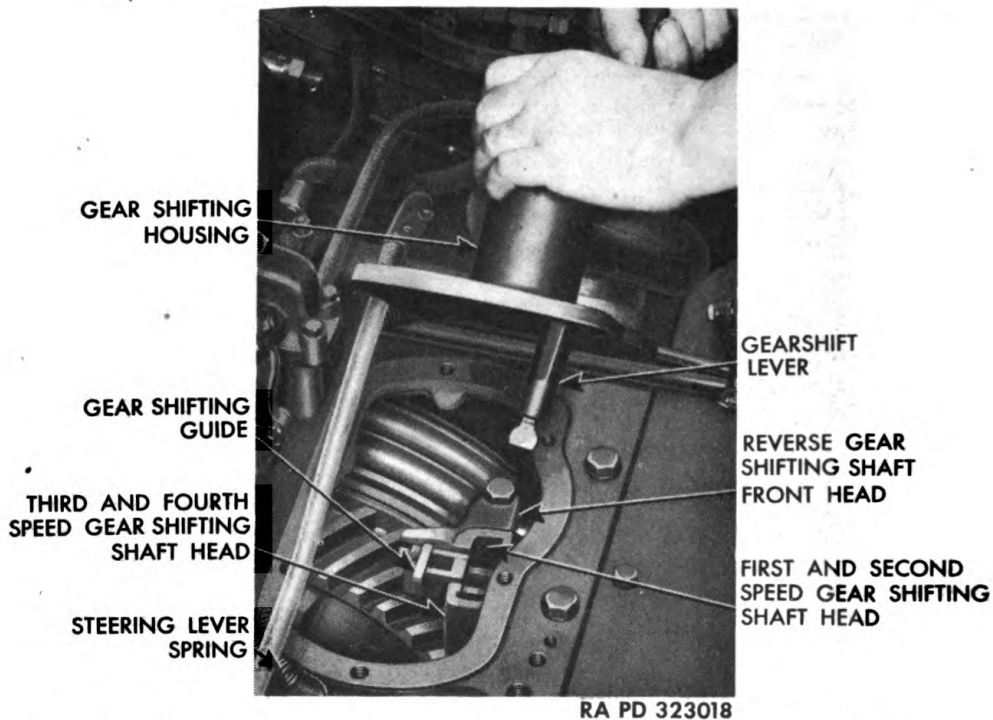

Figure 17 — Removing Gearshift Lever Swivel Housing Assembly
o. Remove Gear Shifting Lever Swivel Housing Assembly (fig. 17). Unhook two steering lever springs from anchors. Remove transmission oil level rod from shifting lever housing. Remove six cap screws and lock washers attaching shifting lever housing to differential housing cover, and lift shifting lever housing assembly from differential cover. Peel off gasket.